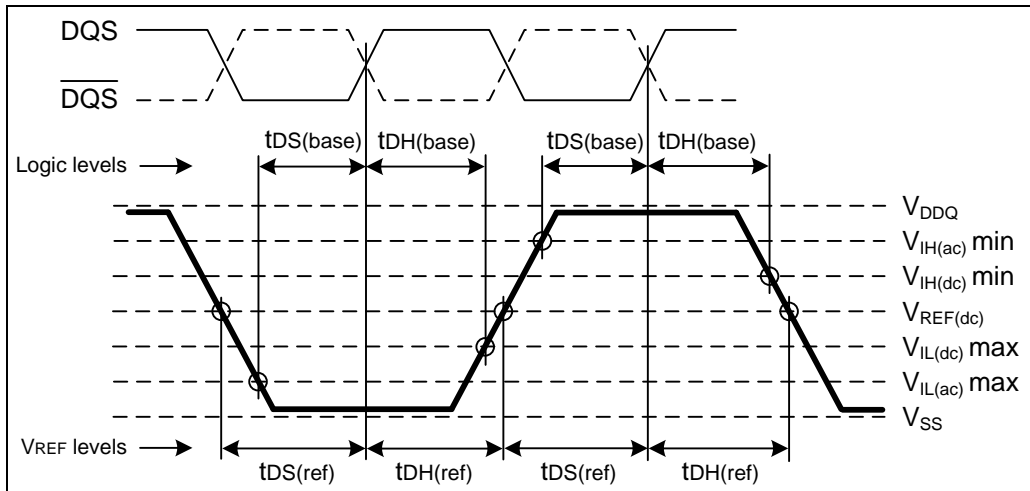

Figure 19 – Differential input waveform timing – tDS and tDH
16. Input waveform timing t_{DS} with differential data strobe enabled $MR[\text{bit}10]=0$. There are two sets of values listed for \overline{DQ} and \overline{DM} input setup time: $t_{DS}(\text{base})$ and $t_{DS}(\text{ref})$. The $t_{DS}(\text{ref})$ value (for reference only) is equivalent to the baseline value $t_{DS}(\text{base})$ at V_{REF} when the slew rate is 2.0 V/nS, differentially. The baseline value $t_{DS}(\text{base})$ is the JEDEC defined value, referenced from the input signal crossing at the $V_{IH}(\text{ac})$ level to the differential data strobe crosspoint for a rising signal, and from the input signal crossing at the $V_{IL}(\text{ac})$ level to the differential data strobe crosspoint for a falling signal applied to the device under test. \overline{DQS} , \overline{DQS} signals must be monotonic between $V_{IL}(\text{dc})_{\text{max}}$ and $V_{IH}(\text{dc})_{\text{min}}$. See Figure 19. If the differential \overline{DQS} slew rate is not equal to 2.0 V/nS, then the baseline values must be derated by adding the values from table of DDR2-667 and DDR2-800 t_{DS}/t_{DH} derating with differential data strobe (page 58).
17. Input waveform timing t_{DH} with differential data strobe enabled $MR[\text{bit}10]=0$. There are two sets of values listed for \overline{DQ} and \overline{DM} input hold time: $t_{DH}(\text{base})$ and $t_{DH}(\text{ref})$. The $t_{DH}(\text{ref})$ value (for reference only) is equivalent to the baseline value $t_{DH}(\text{base})$ at V_{REF} when the slew rate is 2.0 V/nS, differentially. The baseline value $t_{DH}(\text{base})$ is the JEDEC defined value, referenced from the differential data strobe crosspoint to the input signal crossing at the $V_{IH}(\text{dc})$ level for a falling signal and from the differential data strobe crosspoint to the input signal crossing at the $V_{IL}(\text{dc})$ level for a rising signal applied to the device under test. \overline{DQS} , \overline{DQS} signals must be monotonic between $V_{IL}(\text{dc})_{\text{max}}$ and $V_{IH}(\text{dc})_{\text{min}}$. See Figure 19. If the differential \overline{DQS} slew rate is not equal to 2.0 V/nS, then the baseline values must be derated by adding the values from table of DDR2-667 and DDR2-800 t_{DS}/t_{DH} derating with differential data strobe (page 58).